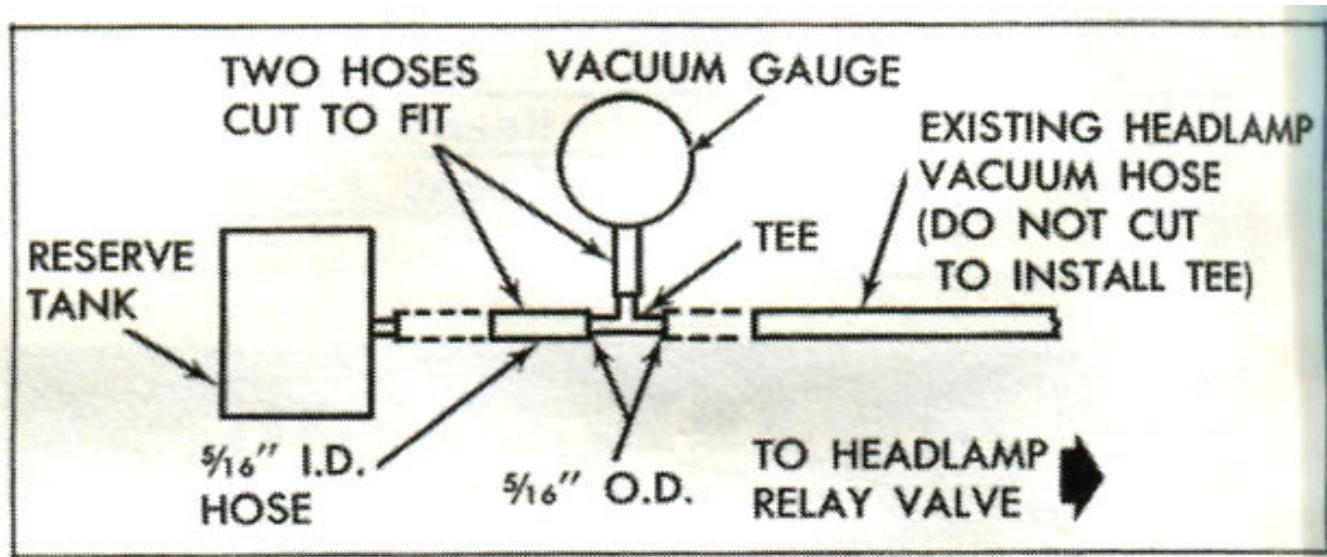

Fig. 5—Install Vacuum Gauge Between Vacuum Tank and Supply Hose
Do **not** aim the headlamps on a 1968 Corvette until you are sure that they are in their operating position. The only way to be certain that they are in operation position, is to have the system under at least 20 inches vacuum. To determine the amount of vacuum in the system, place a vacuum gauge (set-up as shown in figure 5) between the vacuum tank and the supply hose. Once the vacuum gauge has been installed in the system as shown in figure 5, run the engine for approximately two (2) minutes. Turn off the engine and read the gauge. It should read at least 20 inches Hg. If it does not, check for a leak in the system or a plugged or kinked hose between the manifold and the vacuum tank.